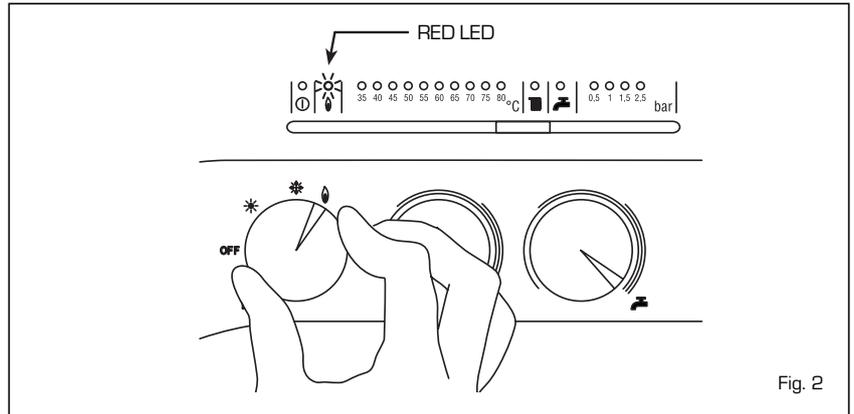

Fig. 2
TEMPERATURES ADJUSTMENT (fig. 2)
- Ignition failure (fig. 2)